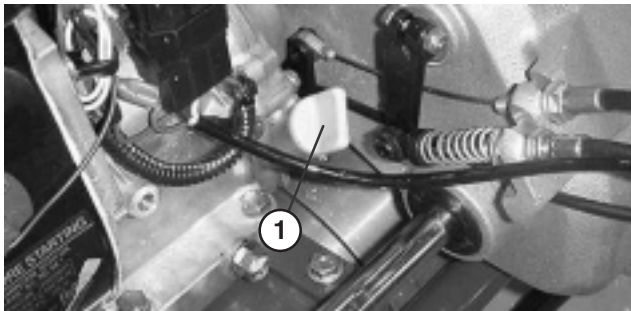

Figure 8
1. Position mower so the engine is level and clean around oil level gauge (Fig. 8).